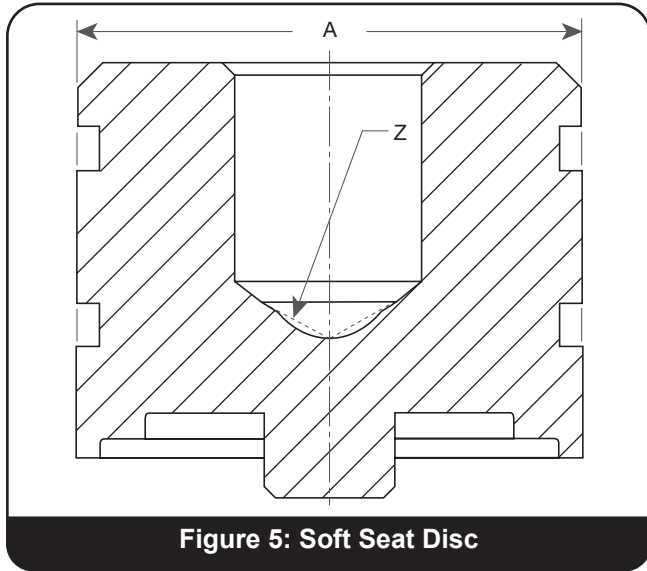

Figure 5: Soft Seat Disc
- a. Spindle bearing surface (Z) is galled or pitted.
- b. Outside diameter exceeds A min. mentioned in Table 2 and Figure 5.